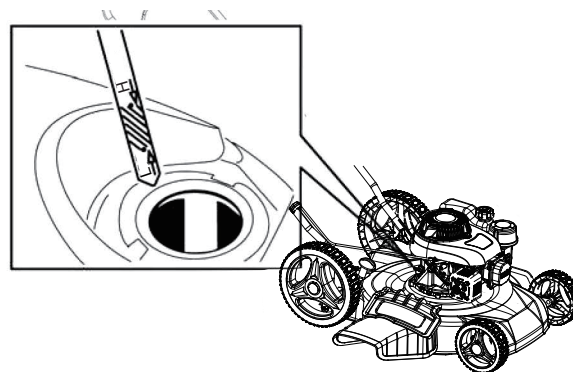

Figura 3
1. Remove the dipstick.(Figura 3)